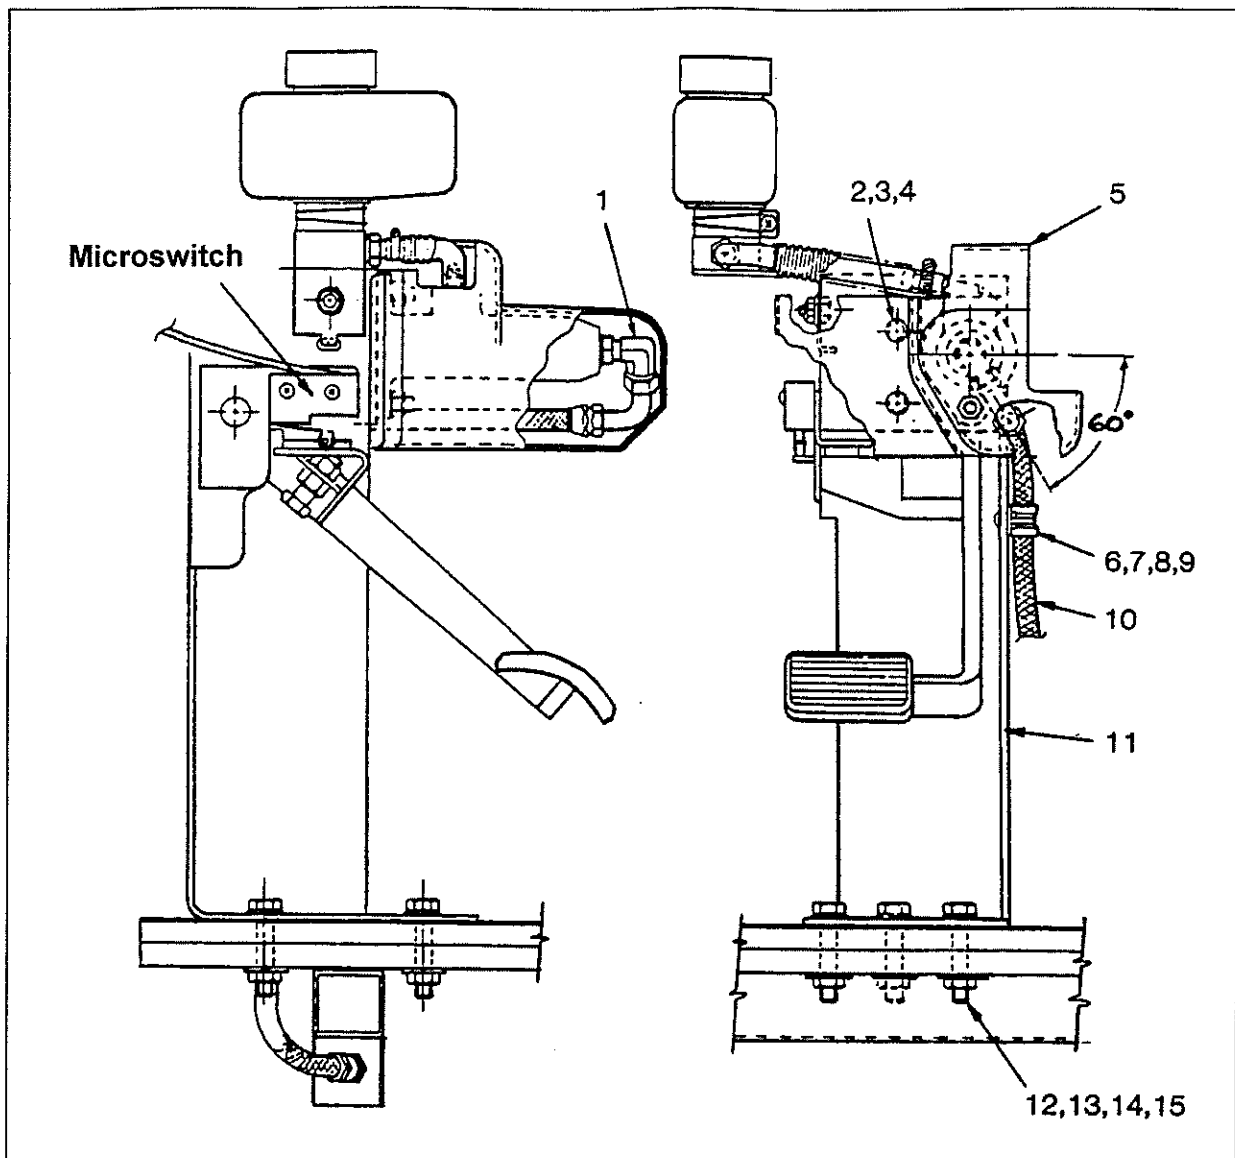

FIGURE 1: CLUTCH PEDAL ASSEMBLY INSTALLATION.
Clutch Pedal Assembly installation. (Fig. 1)
6. Remove plastic cap mounted at the end of master cylinder, screw a 90° Elbow (1), position it as illustrated in figure 1, then torque to 7 - 9 lbfoft (9 - 12 Nom). Connect teflon hose (10).
7. Attach teflon hose to pedal support using retaining clip (6), screw #8-32 x 1" (7), lock washer (8) and nut (9).
8. Introduce teflon hose through driver's compartment floor using existing hole, position new pedal assembly on floor then fix it using M10-1.5 x 45 mm hex. head bolts (12), flat washers (13,14) and elastic stop nuts (15).